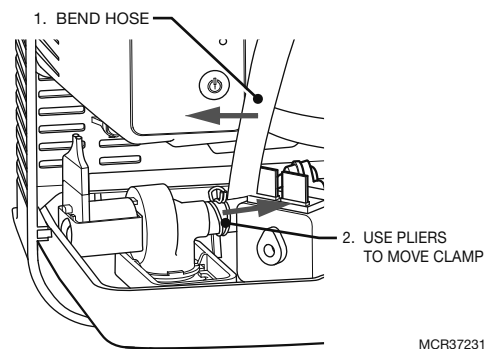

Fig. 33.
8. Inside the humidifier, bend the hose attached to the inlet valve up as shown in Fig. 33